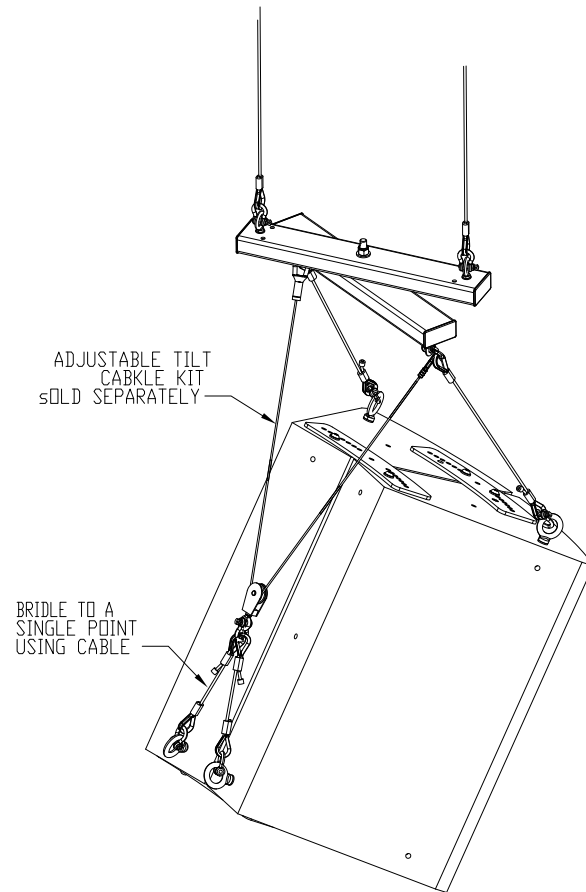

Figure 3: Bridled Pull back point with Adjustable Tilt Cable kit
to attach the pull back cable (Figure 3).
*For steep angles, install the eyebolt on the lower rear rigging points of the speakers and then a bridle to create a single connection point for the pull back cable (Figure 3).*
Lay the speaker cluster on its side then install eyebolts to the side rigging points (now top) of the speaker as shown (Figure 3). Install eyebolts on the rear rigging points of the lower speaker. Use either double pull back points (Figure 3A) or a single pull back point (Figure 3B).